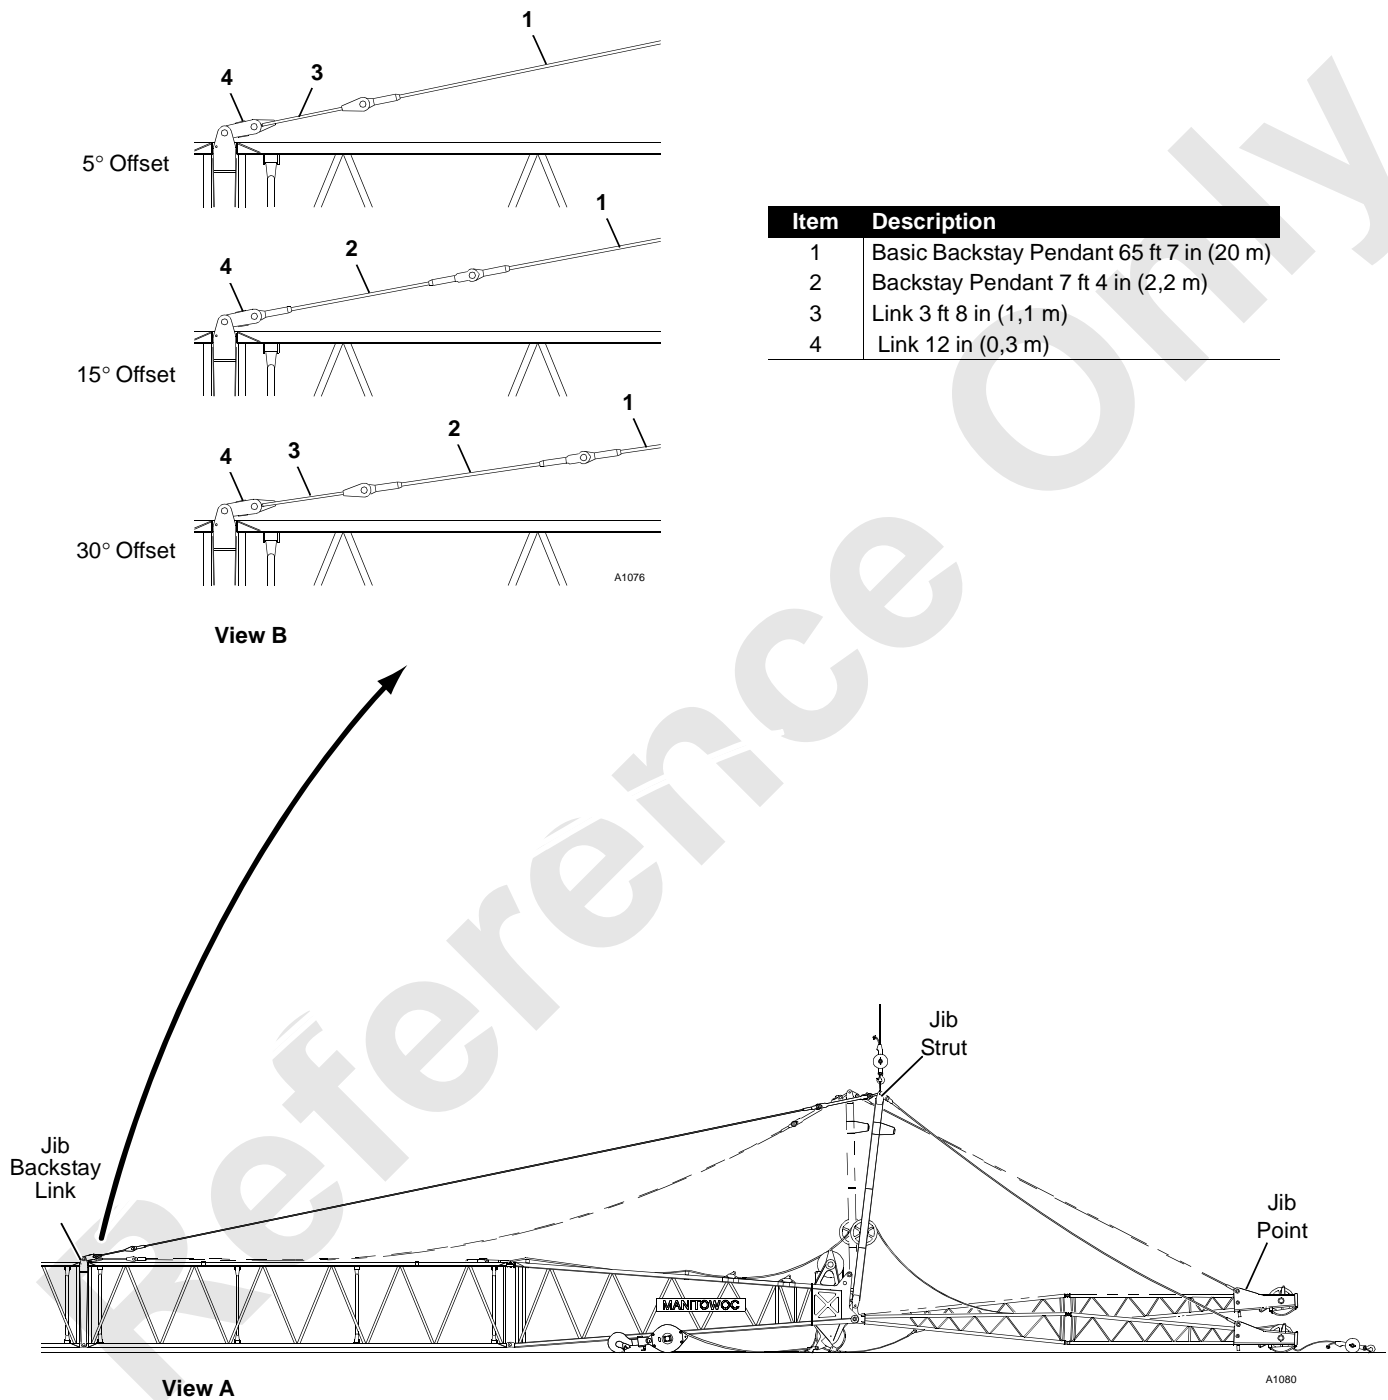

FIGURE 4-33
Jib offsets of 5, 15, and 30° are obtained by changing the length of jib backstay straps, links, and pendants as shown in Figure 4-33.
1. Determine pendants and links required for jib offset (2, 3, 4, Figure 4-33, View B).
**NOTE:** Backstay links (3, Figure 4-33, View B), if used, must be adjacent to connecting links (4).
3. Using assist crane or fork-lift truck, lift jib point approximately 3 ft (0,9 m) off ground and block (Figure 4-33, View A).
4. Using appropriate slings, attach hook from assist crane to top of jib strut (Figure 4-33, View A).
6. Pin jib backstay pendants (1) to links or pendants (2 or 3) previously pinned to boom backstay links (Figure 4-33, View B).
1. Using assist crane or fork-lift truck, lift jib point approximately 3 ft (0,9 m) off ground and block (Figure 4-33, View A).
2. Using appropriate slings, attach hook from assist crane to top of jib strut (Figure 4-33, View A).
3. Disconnect backstay pendants and links (Figure 4-33, View B) from backstay links. Lay pendants on ground along boom top.